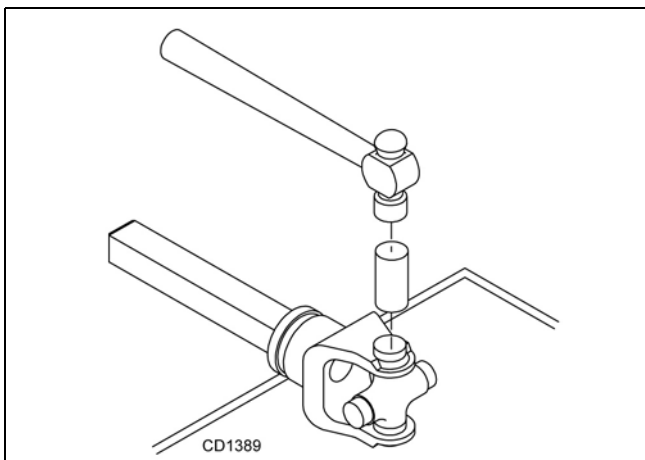

Figure 25.
- Seat cups by placing a drift or socket (slightly smaller than the cup) on cup and rap with a hammer. See Figure 25. Install snap ring and repeat on opposite cup.